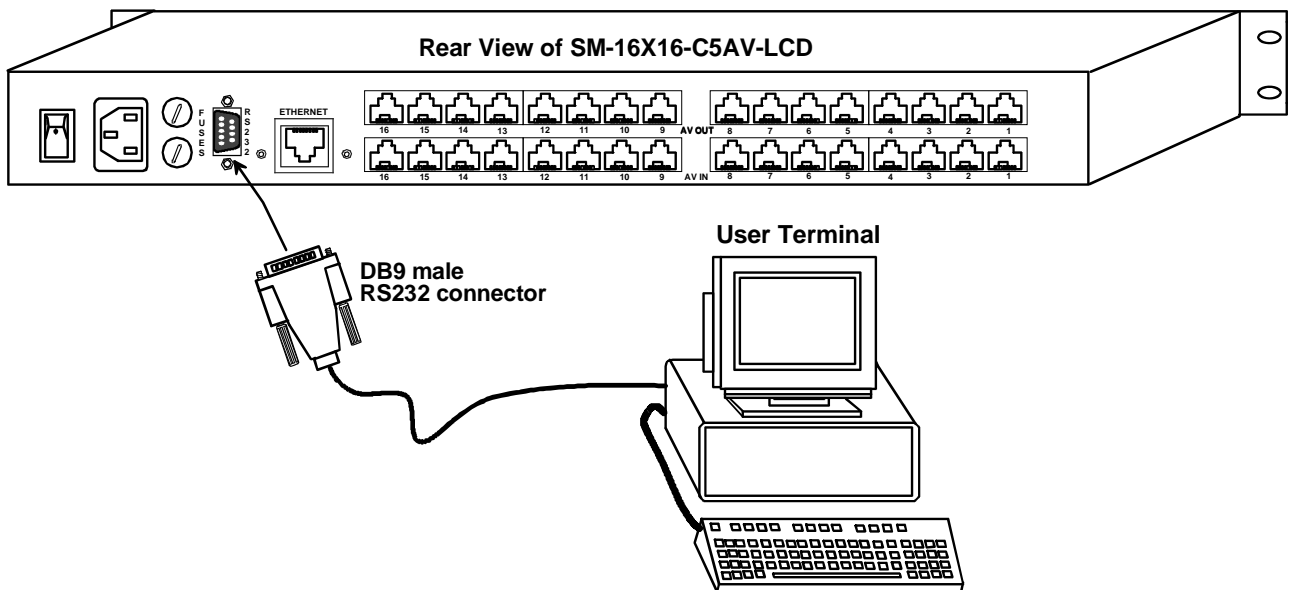

Figure 9- Connect user terminal to VEEMUX
Note: This total length of CAT5 cable between the ST-C5VA-600 Remote and Local units cannot exceed 600 feet. (See Fig. 9)
7. For direct connection of a user terminal, connect a male-to-female DB9 cable from a serial port on the terminal to the DB9 female connector on the VEEMUX. The cable should be wired straight through (pin 1 to pin 1, etc.) (See Fig. 9) The user terminal will control the VEEMUX via the RS232 interface (page 14). See page 32 for cable pinouts for PS/2, SUN, and MAC terminal connections.